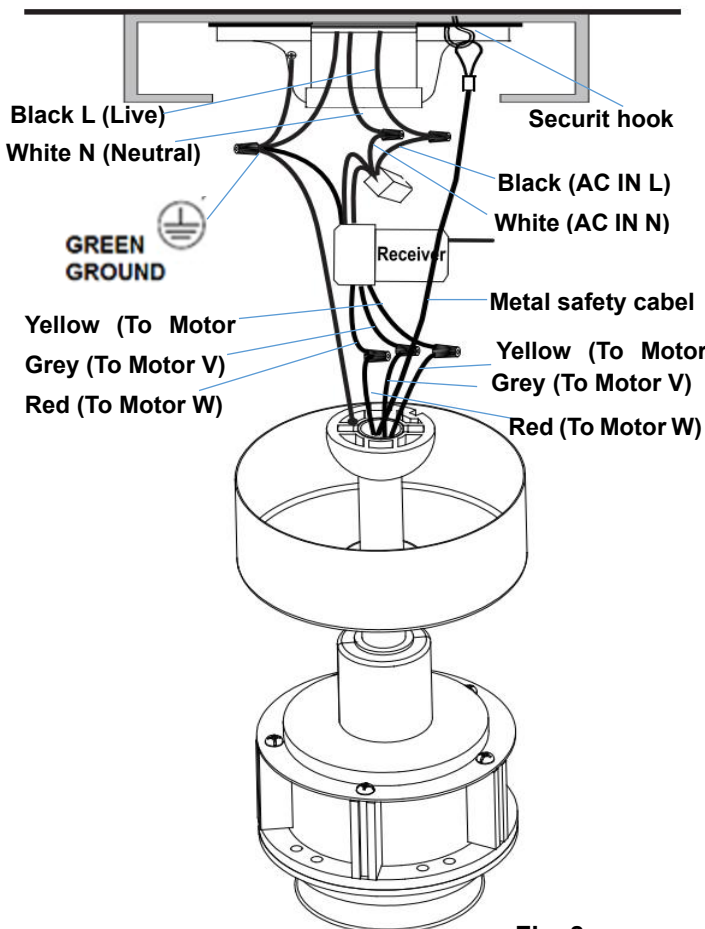

Fig. 8a
8. Pull the metal safety cable on the security hook, tight the safety cable (Fig.8a & Fig.8b)